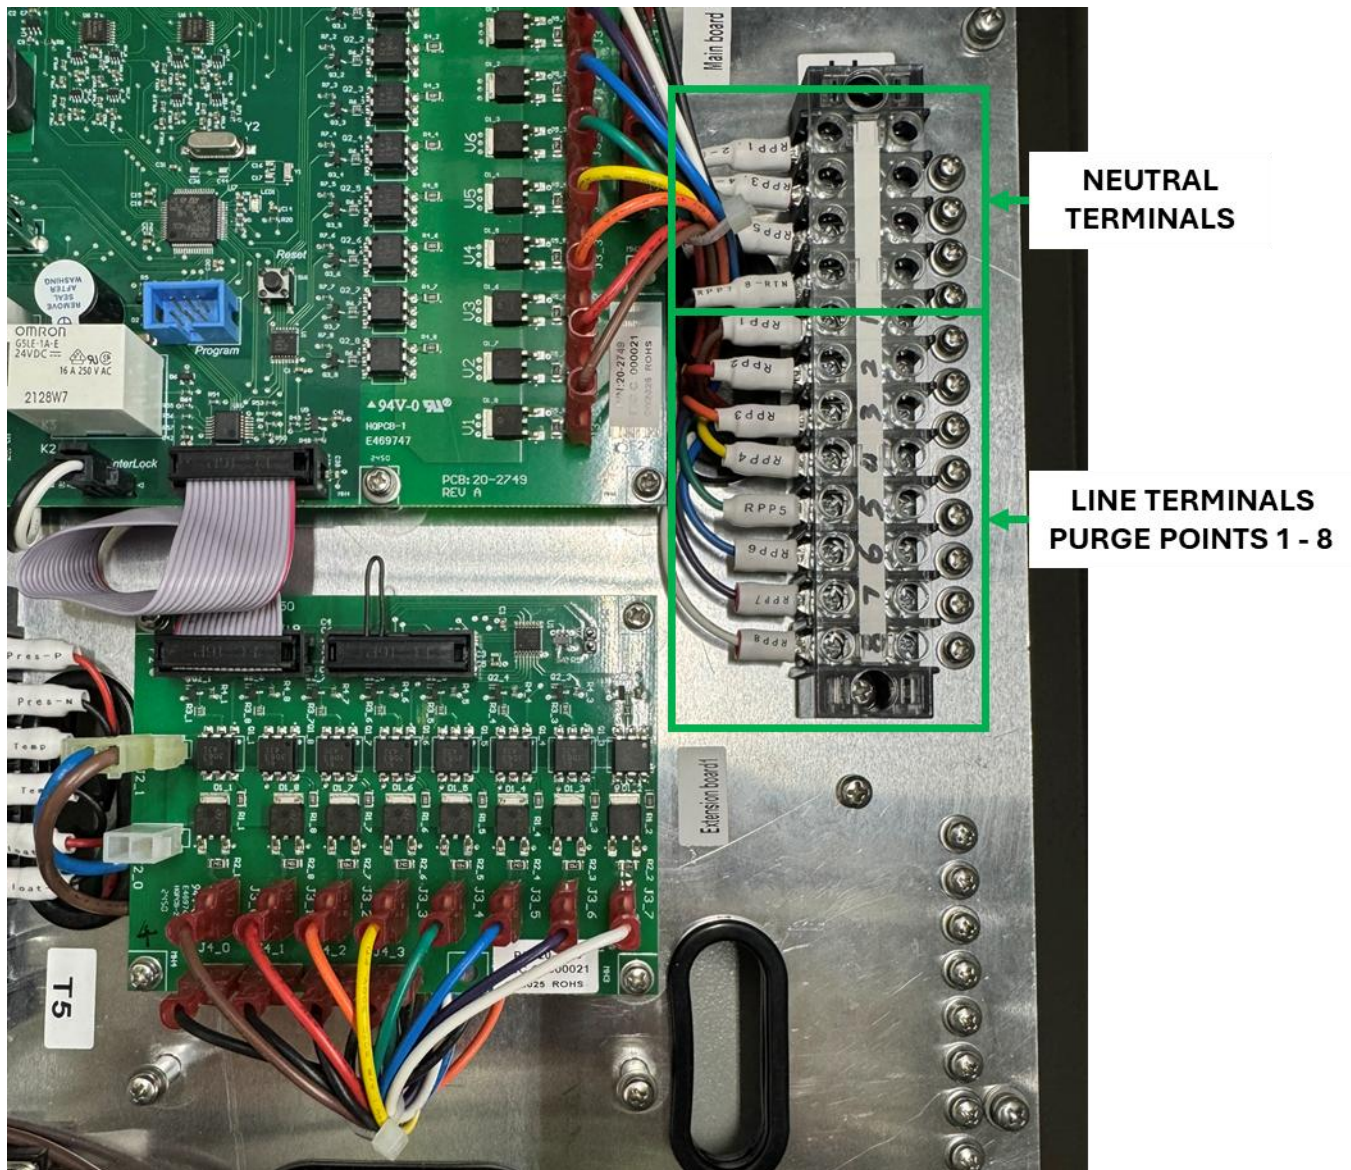

Figure 11. Location of Purge Point Terminal
16. Connect purge point coils to purge point terminals. See Figure 11.